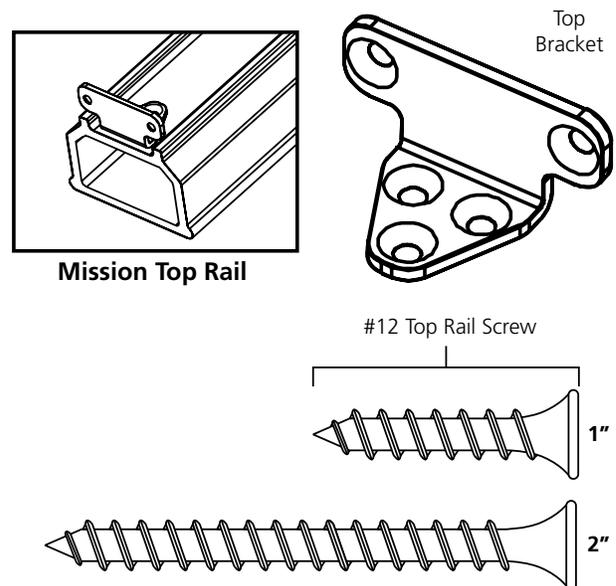

Figure 21
7. Center the top bracket on the underside of the top rail (Figure 21). Inset the top bracket 1/16" from the end of the rail. Mark the three hole locations on the rail. Pre-drill 5/32" holes at the desired locations. Repeat for opposite end.